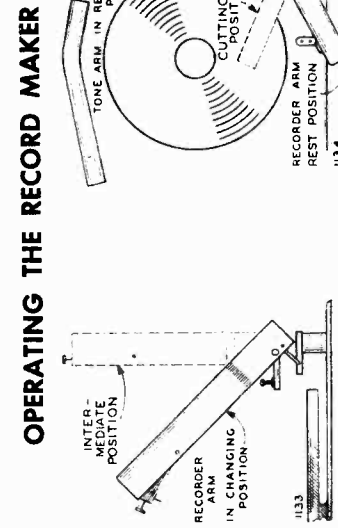

Fig. 1—Positions of Recorder Arm
- A—Recorder arm in rest position.—See Fig. 1.
- B—Tone arm in rest position.—See Fig. 1.
- C—Tone arm in rest position.—See Fig. 1.
- O—The record can be cut until the cutting needle is about 1/4 inches from the center of the record or until a short distance before the needle reaches its final position. Shortly before the needle reaches its final position, reduce the volume to zero with the Microphone Volume Control and cut 3 to 5 blank grooves on the record. Then return the recorder arm to the rest position by lifting to an angle of about 50° (Fig. 1). Rotate it counterclockwise as far as it will go and then let it down gently on the post. Push the Motor Switch Knob to the OFF position.
- B—Recorder arm in rest position.—See Fig. 1.